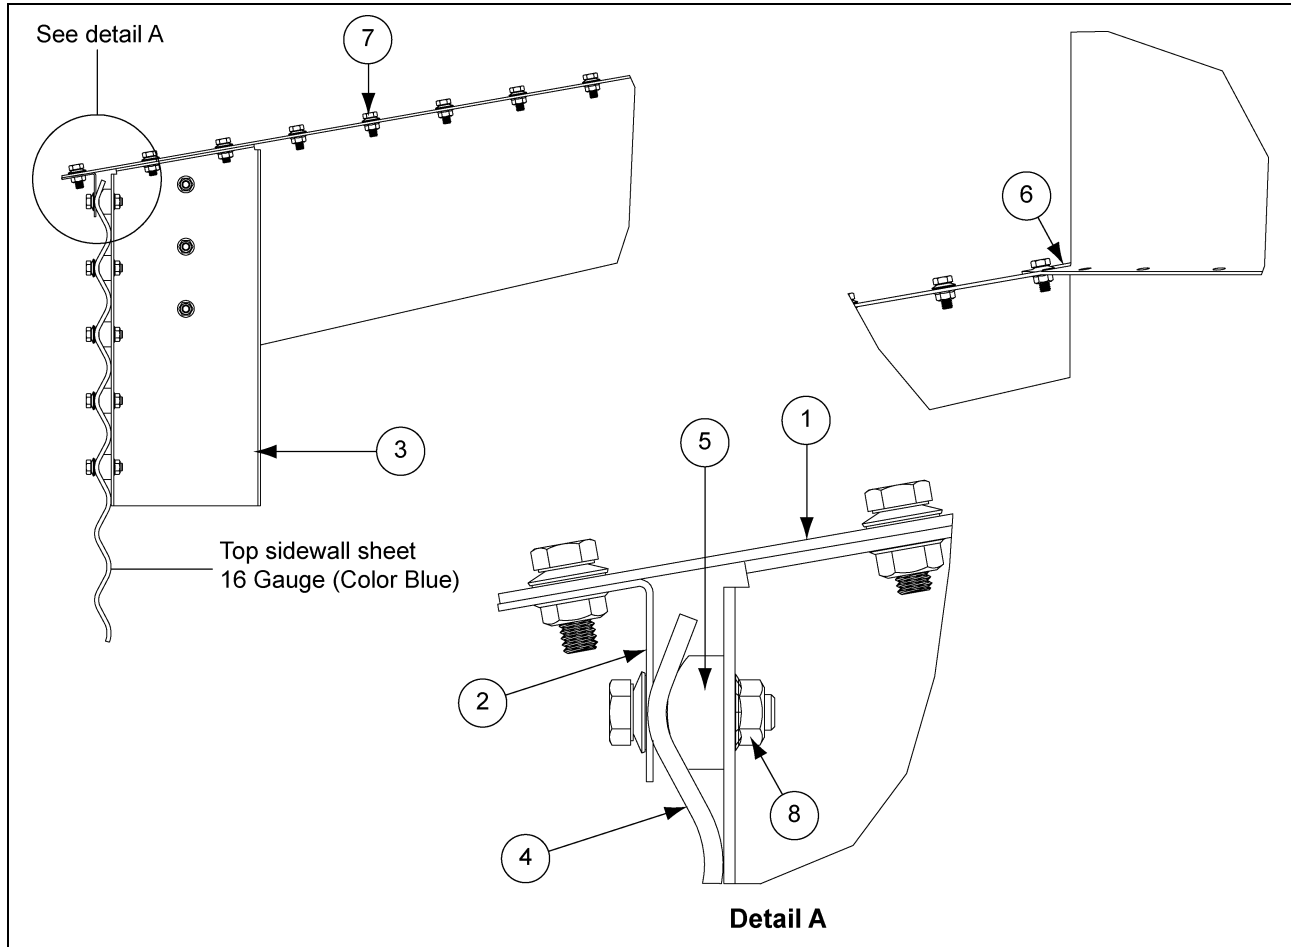
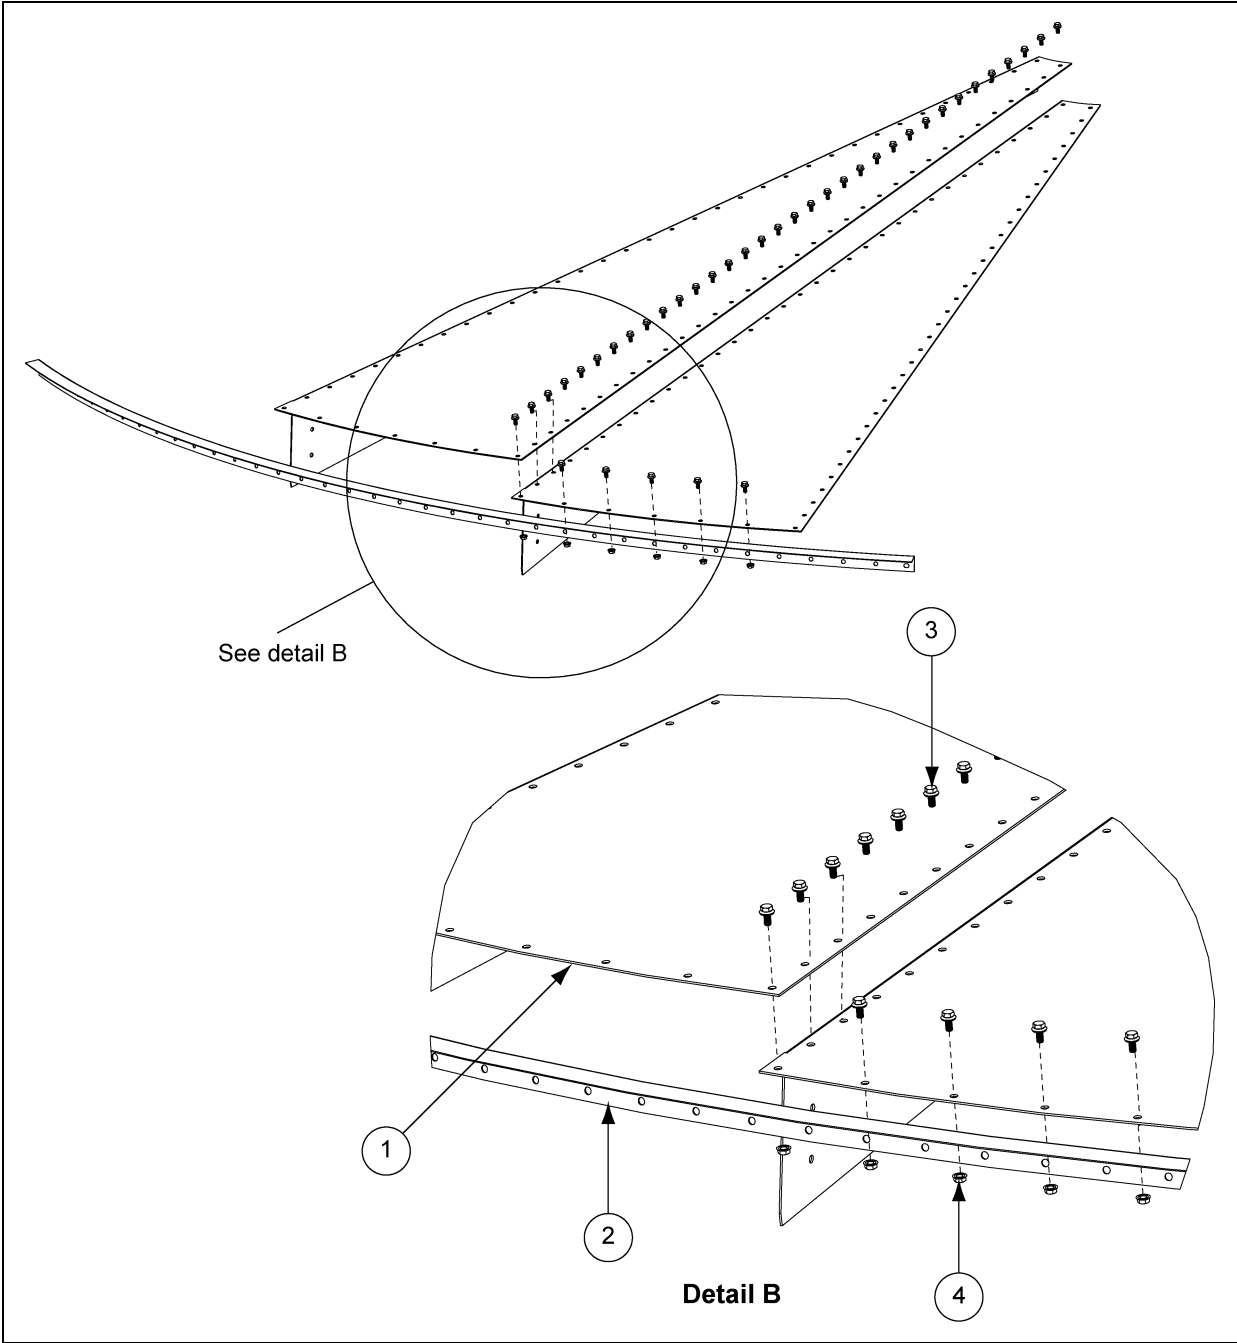

Figure 1
Figure 2
2. Beginning with the second vertical row of holes (clockwise) from the sidewall vertical seam, assemble an eave support bracket, spacers and an eave seal angle to the top sidewall sheet. On every third vertical row of holes thereafter, attach another eave support bracket with spacers. Refer to Figure 1 on Page 2 and Figure 2 on Page 3 for assembly diagrams and details. Be sure to caulk all areas indicated.